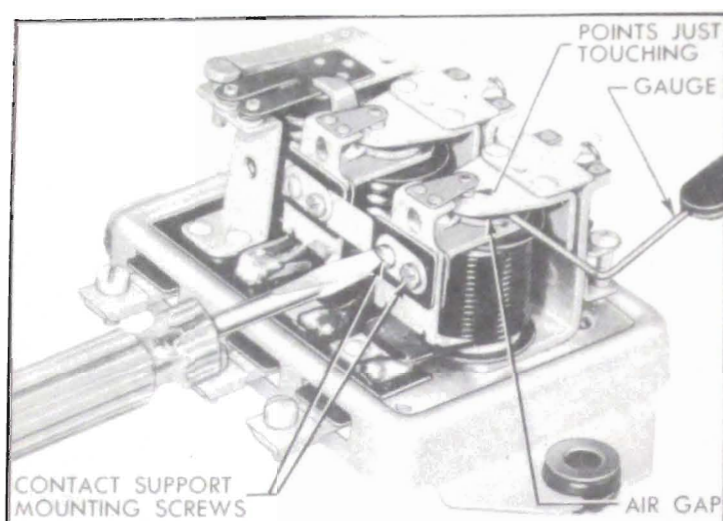

Figure 10-31—Adjustment of Voltage Regulator Air Gap
2. Adjust air gap on each unit, if necessary, by loosening contact support mounting screws and raising or lowering support as required. Be sure points are lined up when tightening screws, then recheck gap after adjustment. See figure 10-31.